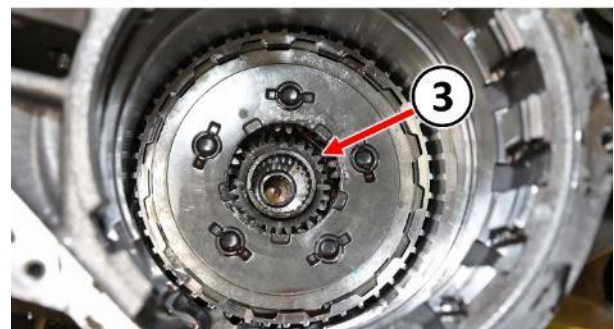

Figure 31 – Compounder Assembly
44. Secure the Puller Adapter 9908 into a vise (2) to hold the underdrive compounder assembly (1) during disassembly (Figure 31).
45. If the thin sun gear (3) came out of the transmission attached to the underdrive compounder assembly (1) then place it back in its proper position within the transmission (Figure 31).